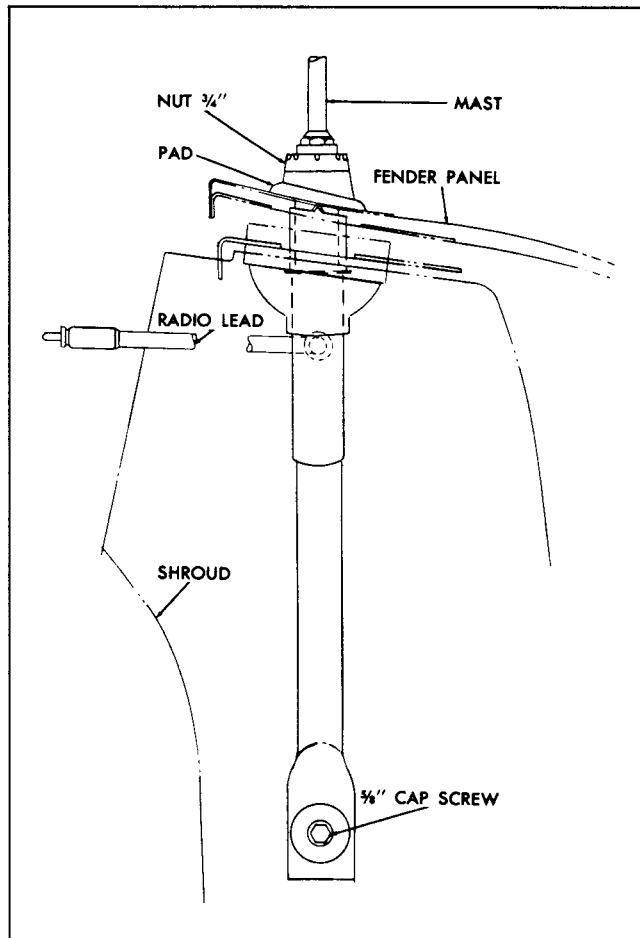

Fig. 12-9 Antenna Installation
5. Remove screw securing antenna body to shroud (Fig. 12-9).
7. Remove upper nut, adapter, and pad (Fig. 12-9).